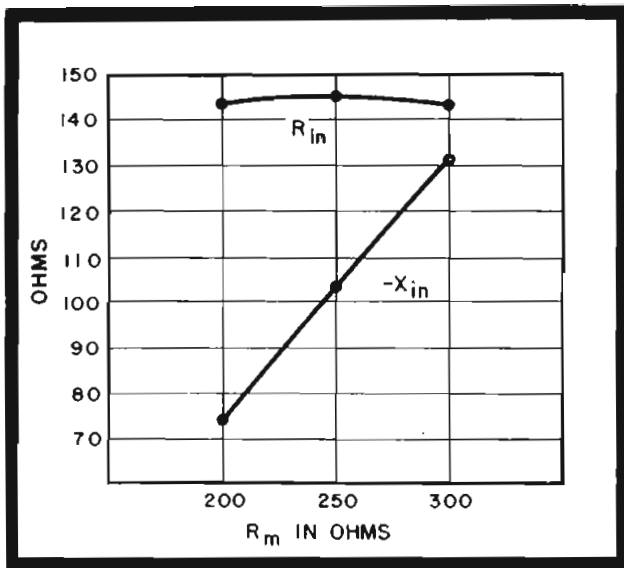

Figure 4
and we have a load resistance R_m of nominal value of 250 ohms as a terminating resistor. The length of transmission line to be used as given by (11) should be 22° or about $1/8$ of a wavelength at the frequency being employed. If the terminating resistor is varied from 200 to 300 ohms the variation in R_{1n} and X_{1n} can be calculated immediately from (6) and (7). A curve of the variation in these values is shown in Figure 4.